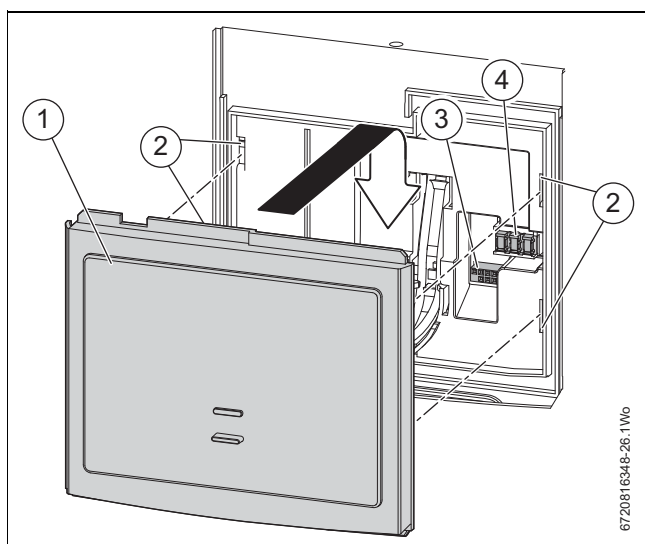

Fig. 20 Connecting the plug-in controller (example shown EMS receiver unit)
- Socket connection [3], figure 20.
- Contact connection [4], figure 20.